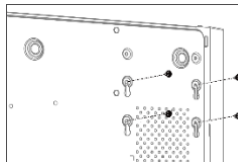

Figure 2-9 Fix HDD
Step 3 Match HDD screw threads with the reserved holes on the device bottom, and fix HDD with screws. Refer to Figure 2-9.